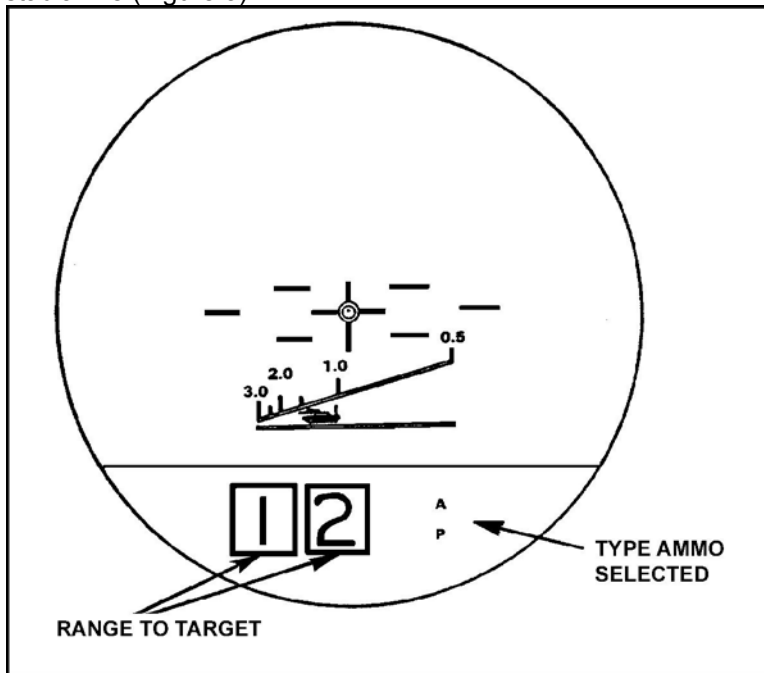

Figure 3. Stadia line.
- b. Read the target's range at the point where the top of the target or the top of the hull appears to touch the stadia line (Figure 3).
NOTE: The status indicator in the bottom of the reticle shows the type of ammunition selected (HE or AP) and the range to target selected on the range control knob (12 equals 1,200 meters). Do not move from the sight while setting the range on the ISU (See Figure 3).